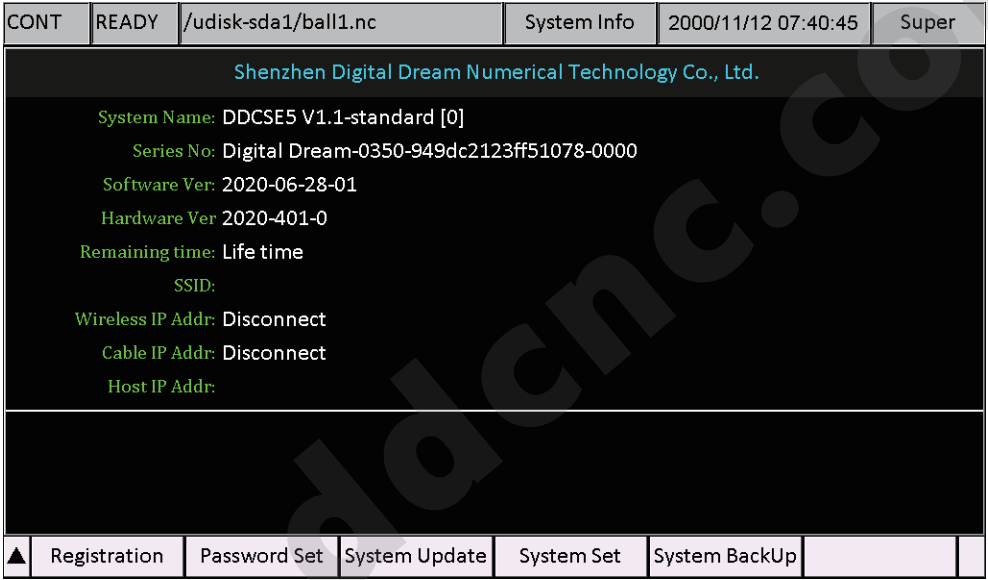

Figure 20 “System info” Page
- 1) Go back to Main page and Press F6 To System Info,as figure 20 shows;